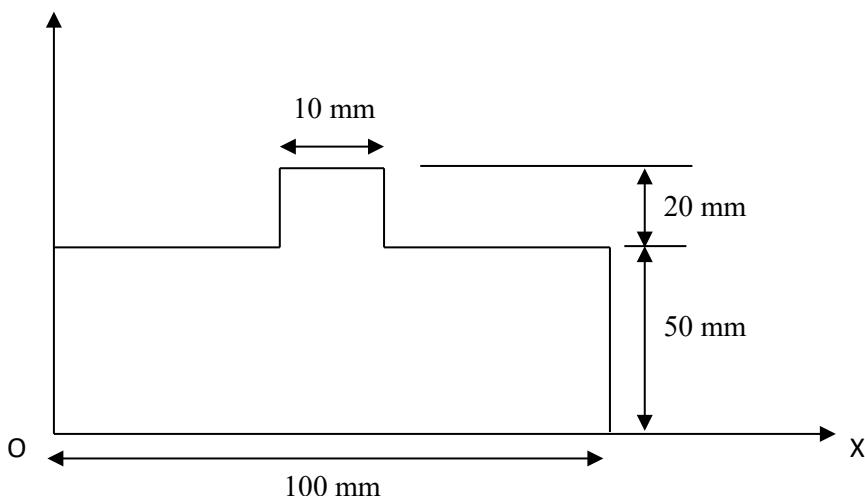

Figure B1(a)/ Rajah B1(a)
- CLO 2 (b) Based on Figure B1(b) below, calculate the position of centroid x and y axis.